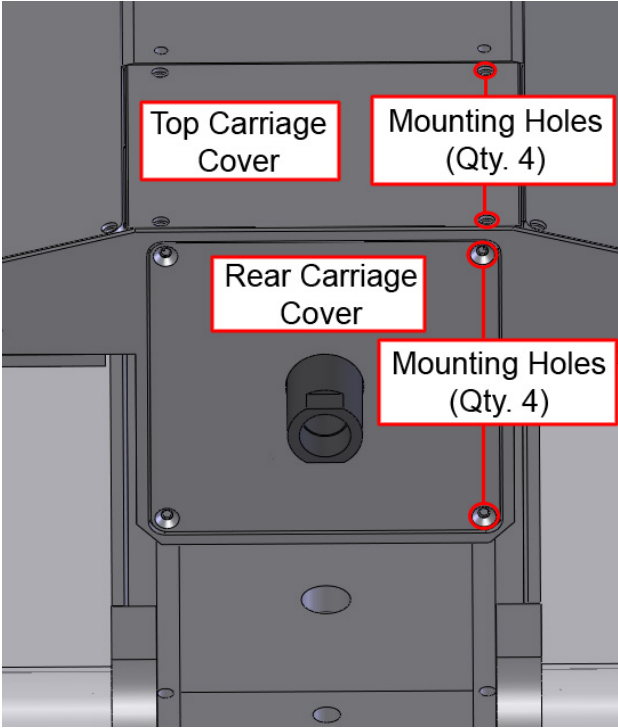

Figure 4-8: Carriage Cover Removal
Step 2: To access the rotary union assembly, remove rear carriage cover and top carriage cover located on the backside of the carriage (see Figure 4-8).